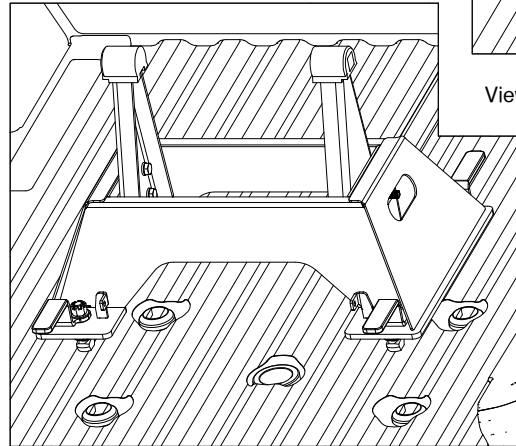

Figure C1: View of unlatched base.
1. Remove the latch pins from each side of the base and rotate the handles out, see Figure C1. Place the base over the attachment points and carefully lower it until the latch cams pass through the floor and the base rests flat against the top of the attachment points.